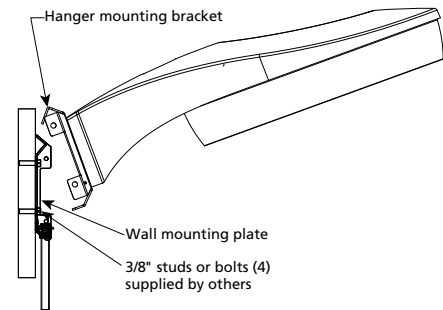
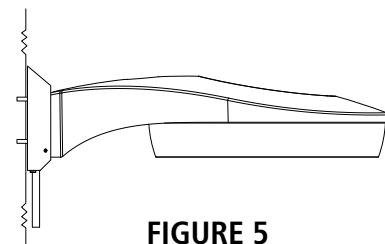

FIGURE 3
FIGURE 5
- 5: Mount housing onto wall mounting bracket as shown. Be sure the hanger bracket hooks behind the mounting plate. See Figure 3.
- 6: Tighten set screws, (4) securing fixture tightly to wall mounting bracket.
- 8: Slide cover plate over mounting brackets and fasten with (2) 8-32 × 1/2" screws. Apply bead of weatherproof sealant around the perimeter of cover where it meets the wall and around the conduit hole to seal out water. See Figure 5.